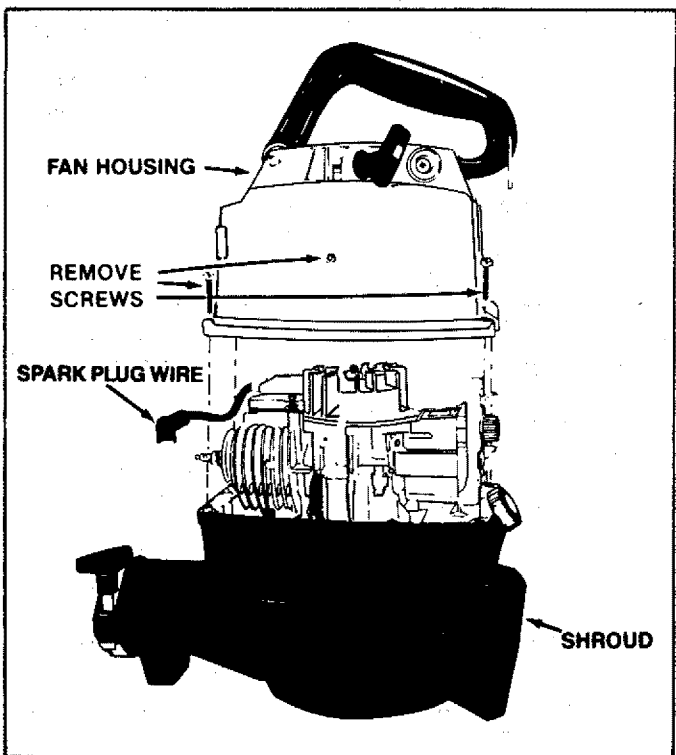

Figure 9
1. Disconnect the spark plug wire and remove the 6 screws from the fan housing. Figure 9.